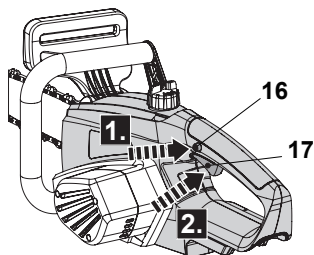

Fig.19
1. Press the lock-off button (16) and hold it in position (Fig. 19, step 1).
2. Squeeze the on/off switch (17) to switch the product on (Fig. 19, step 2). Release the lock-off button afterward.
3. Release the on/off switch (17) to switch the product off.